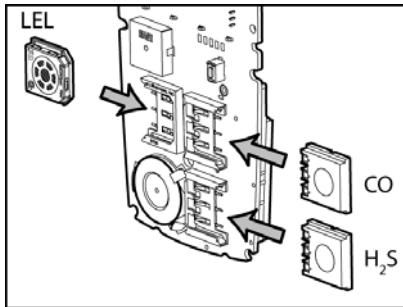

Figure 12. Sensor Positioning
3. Insert the new sensor(s). For sensor positioning, refer to Figure 12.